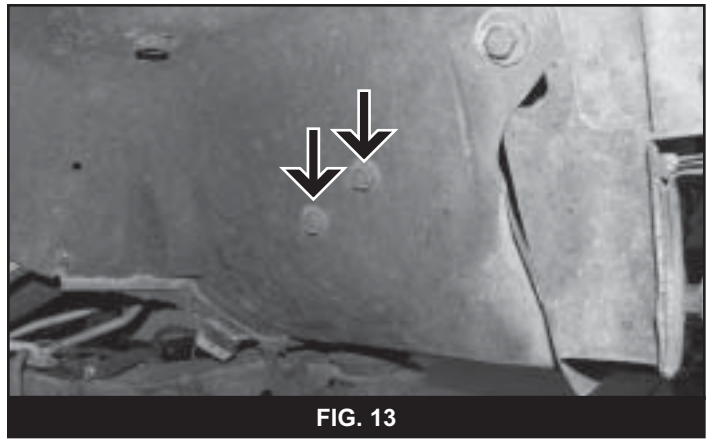

FIG. 13
23. **4wd only:** Remove the two bolts mounting the front axle actuator to the passenger's side inner fender. The bolts are accessed from inside the wheel well (Fig 13).
64. **4wd only:** Measure and mark 1/2" to the inside of the axle actuator mounting holes on the inner fender (Fig 13). Drill a 3/8" hole at each mark.